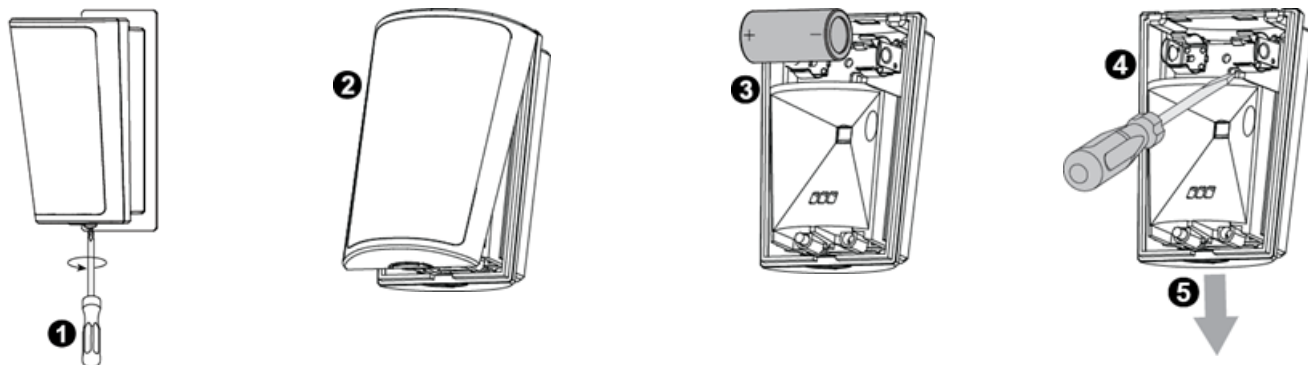

Figure 12. Disassembly from Bracket
4. Walk-test the coverage area – see Figure 12. Walk across the far end of the coverage pattern in both directions. The red LED lights each time your motion is detected followed by 3 LED blinks.